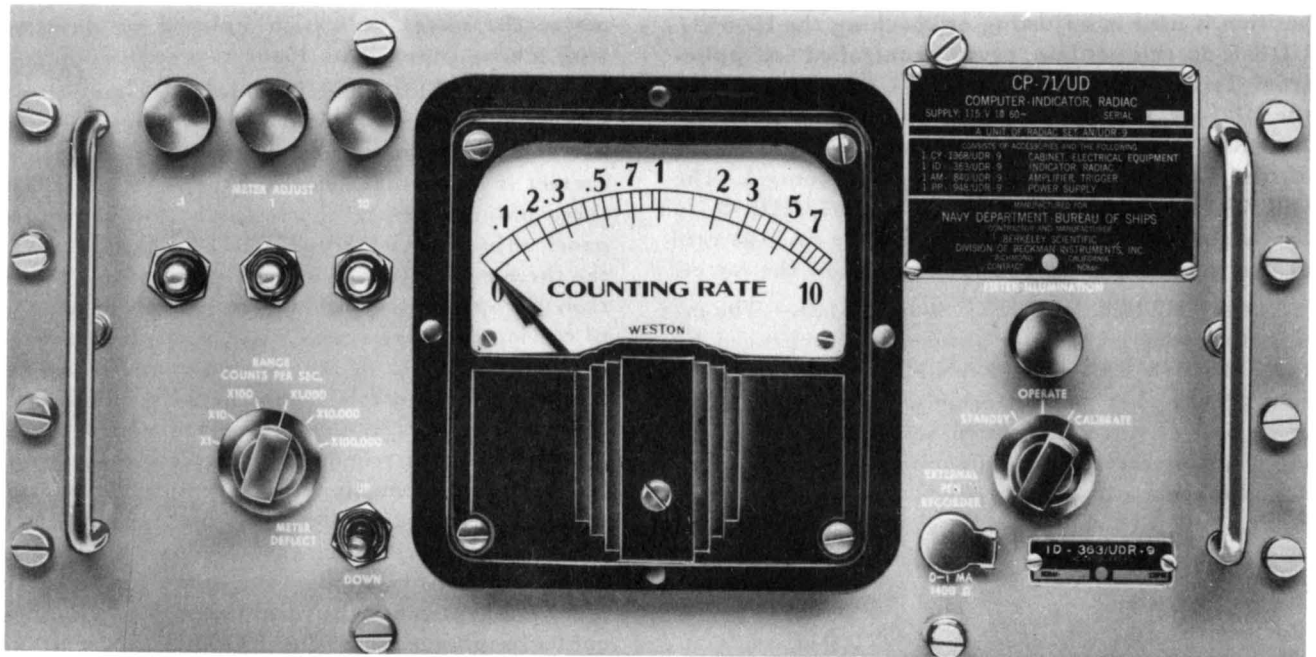

Figure 4-4. Radiac Indicator ID-363/UDR-9, Front Panel Controls
(1). General.—Figure 4-4 shows the location of controls on this unit. The ID-363/UDR-9 indicates the average arrival of pulses from the Radiac Detector DT-40/UD, a G-M tube, or from other suitable non-integrating type radiac detector.